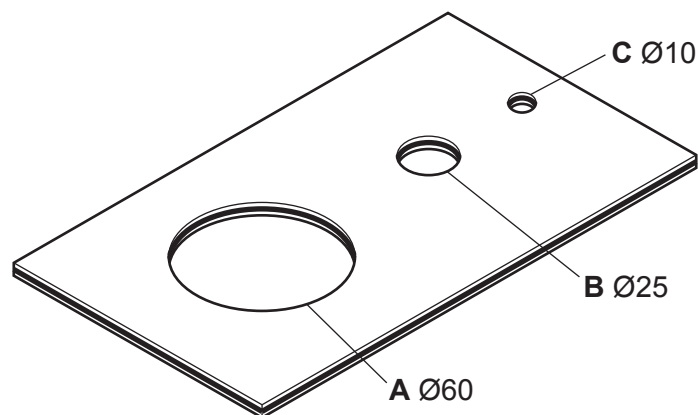

Fig. 7.1
- 7 Fig. 7.1 shows three holes, **A**, **B** and **C**, drilled through 5 mm thick plywood.